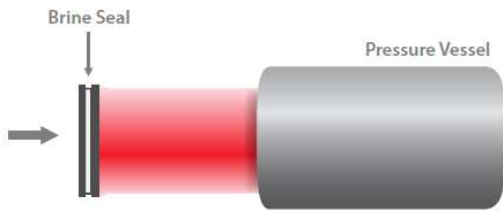

Figure 1.1: Insertion of element
3. Look at the Flow Direction Arrow on the RO element to select the right direction of element insertion into the pressure vessel. The brine seal must be on the feed side of the element. Carefully insert the RO element into the feed side of the pressure vessel until 2/3 of the element length is inside the pressure vessel (Figure 1.1).